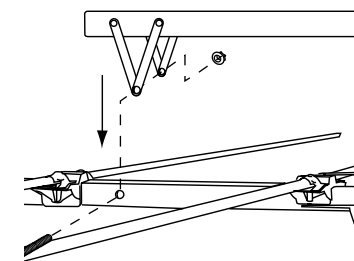

Fig. 7
- Lay the boom brace on top of the antenna keeping all the U-bolts on the same side. Locate the bolt hole in the corner reflector and attach the brace with the bolt and nut. Swing the boom brace down towards the rear. Form a "V" with the metal straps. Bolt the "V" to each side of boom. (See figures 7 and 8.)